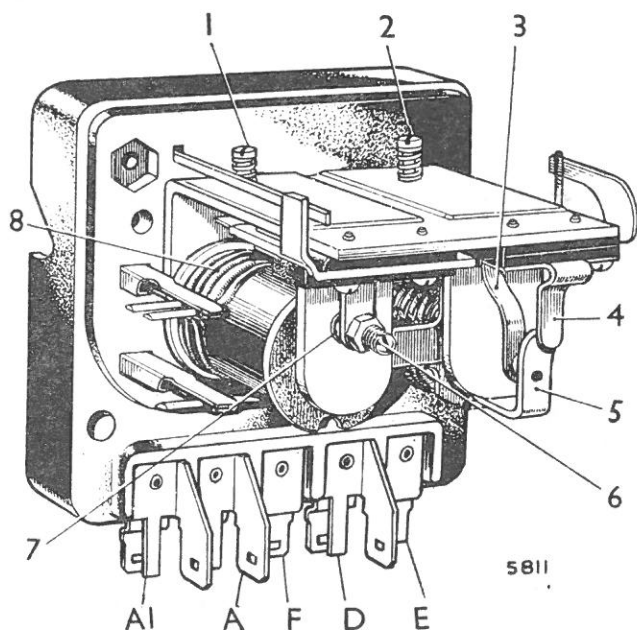

Fig. N.3
- (1) Disconnect the cables from the control box terminals 'A' and 'A1' and join them together.
- (2) Connect the negative lead from a voltmeter (0-20 volts) to control box terminal 'D' and the positive lead to terminal 'E'.
- (3) Slowly increase engine speed until the voltmeter needle flicks and then steadies. This should occur between 15.8 and 16.7 volts, depending on the ambient temperature.
- (4) If adjustment is required, switch off the engine and remove the control box cover.
- (5) Turn the voltage adjustment screw (1) (Fig. N.3), in a clockwise direction to raise the voltage and anti-clockwise to lower it. Turn only a fraction of a turn at a time. This adjustment should be completed within 30 seconds or the settings will be affected by heat. Do not run the dynamo at a higher speed than is necessary for the adjustment to be made.